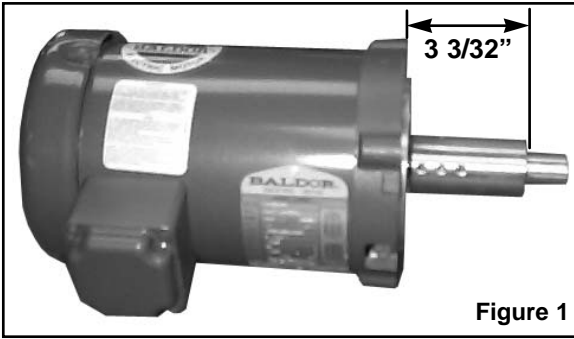

Figure 1
- B.) Position stub 3/32" from Motor C face. See Figure 1.